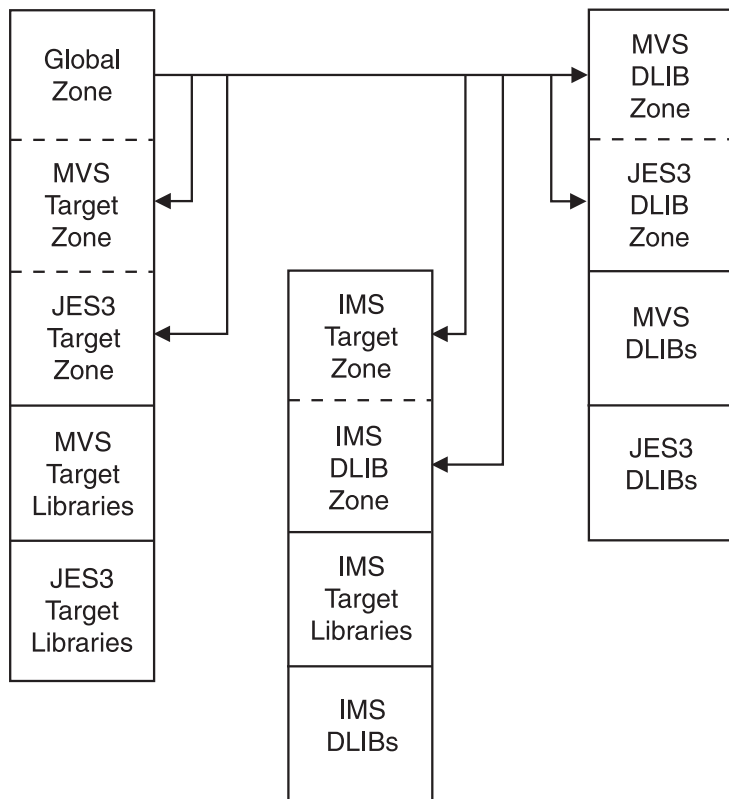

Figure 27. Using a master CSI
*Example 3: Using a master CSI and multiple CSIs:* In Figure 27 on page 56, one global zone is defined for the entire system in a master CSI, and separate CSIs are allocated for the JES3 and IMS subsystems on the packs where the subsystem libraries reside. This CSI structure provides the advantages of a common control point (as in Example 2) and keeps the SMP/E control information physically associated with the libraries it describes. This is useful when you dump packs for backup.